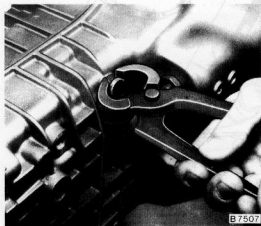

Fig. 13.97 Removing the detent plug with a pair of pincers (Sec 11)
- 24 Pull the detent plug from the gearbox casing with a pair of pincers as shown in Fig. 13.97. Hook the detent spring and pin from their location.